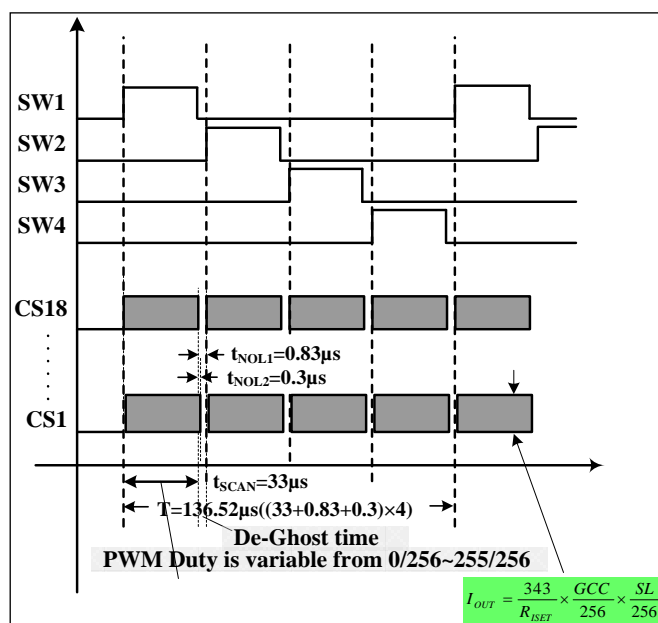

Figure 6 Scanning Timing
As shown in Figure 6, the SW1~SW4 is turned on by serial, LED is driven 4 by 4 within the SWx (x=1~4) on time (SWx, x=1~4 is source and it is high when LED on), including the non-overlap blanking time during scan, the duty cycle of SWx (active high, x=1~4) is formula (2).